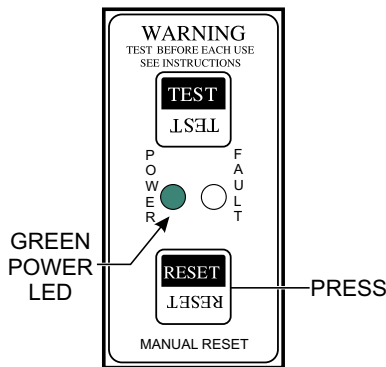

Figure 70. GFCI Sensing Module (Green LED ON Reset)
- To restore power, press the RESET button (Figure 70) on the GFCI module and verify that the **red** FAULT LED turns **OFF** and the green POWER LED should turn **ON**.